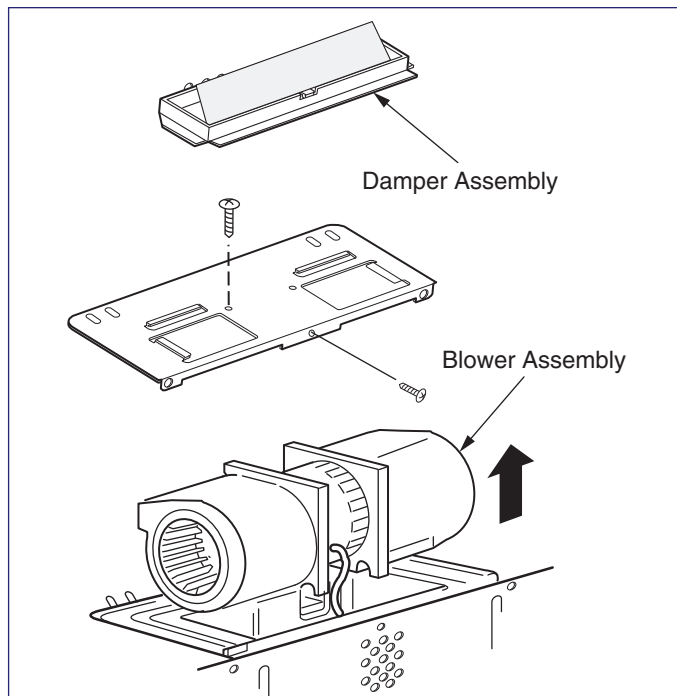

Figure 4-9. Vent Blower Assembly
2. Remove 5 screws securing damper and motor assembly to top and back of unit and lift off. (1 screw is located under damper.) (See Figure 4-9)